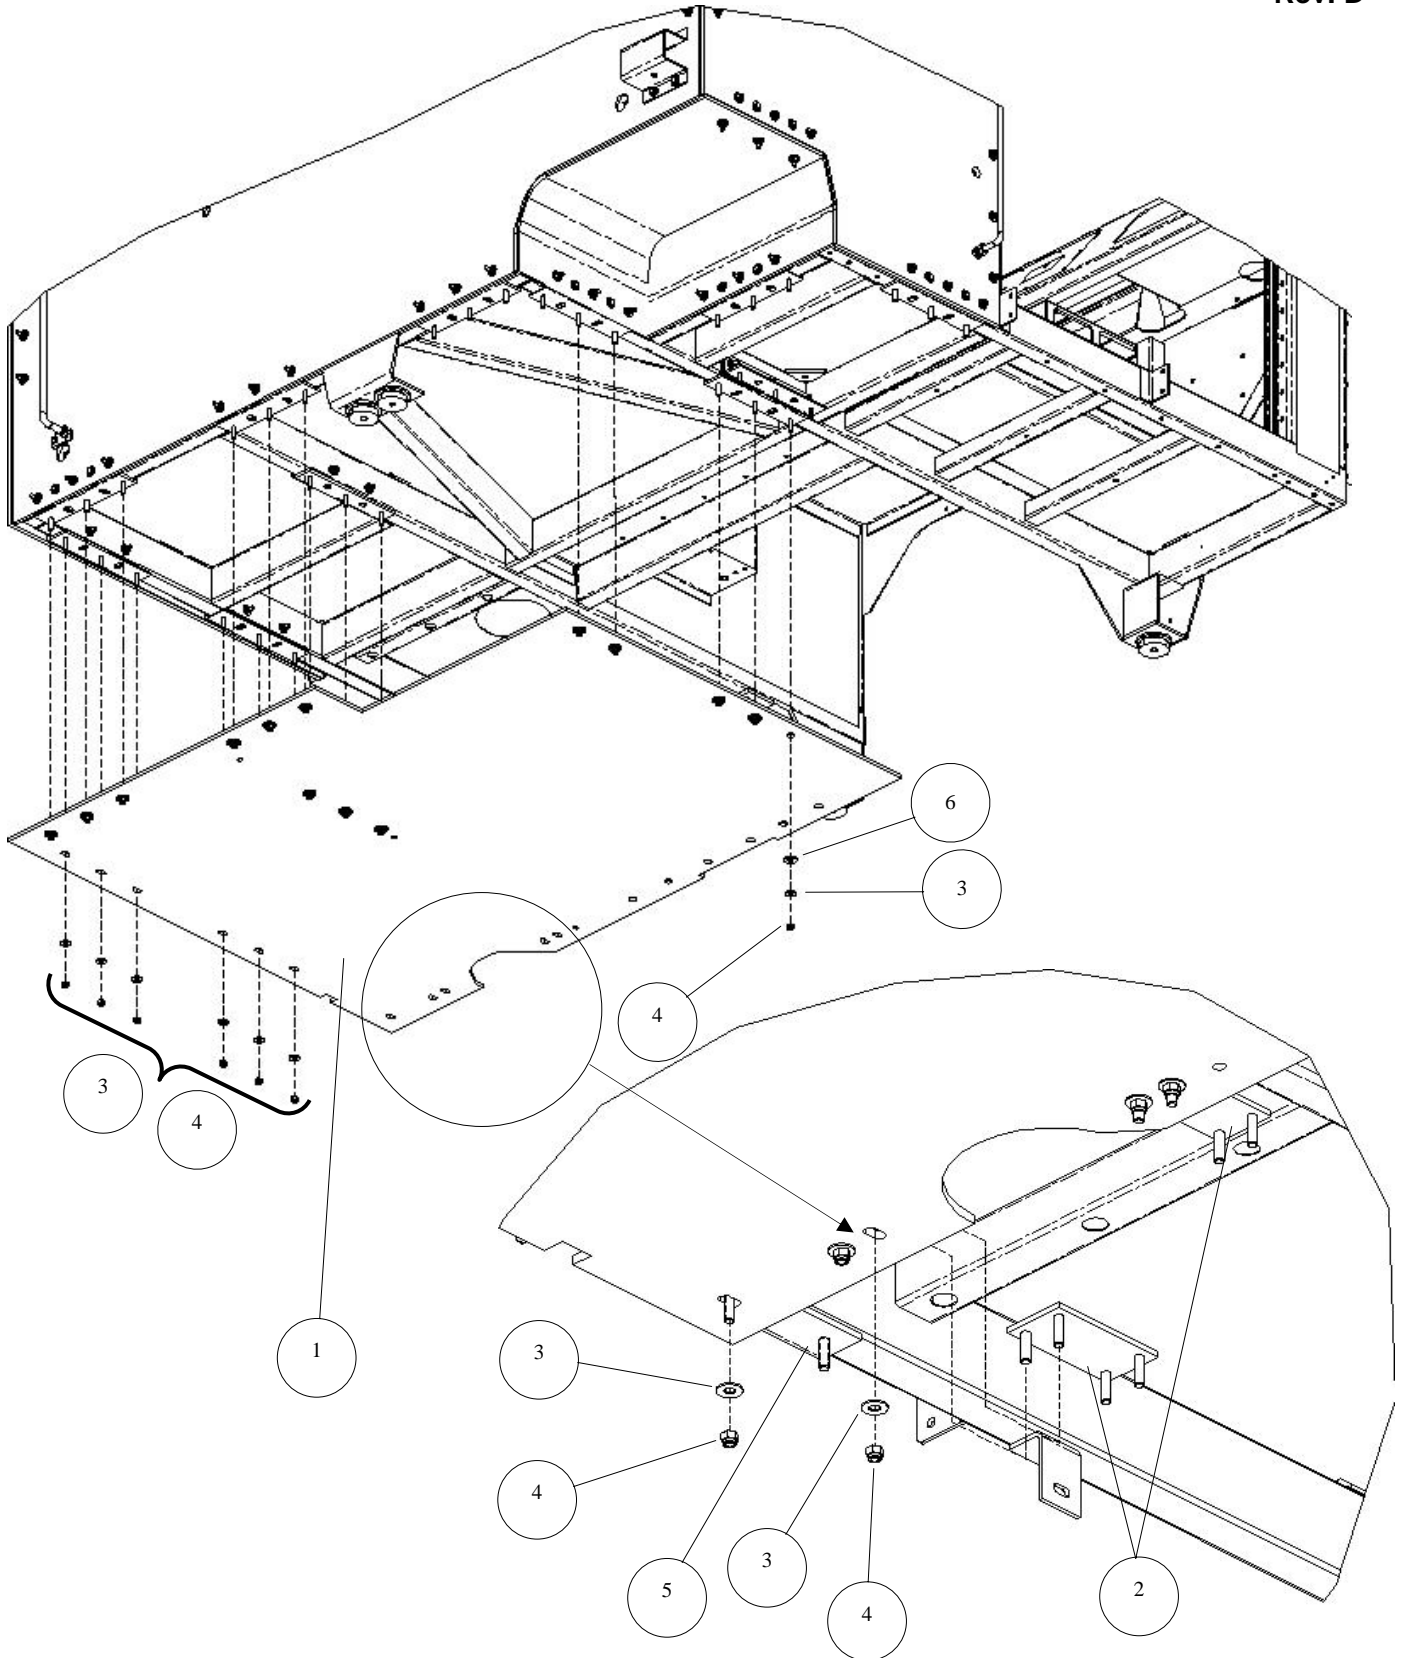

Figure 3-36. Center Mine Blast Panel Installation.
5. Install center mine blast panel, power steering brackets, and step joiner bracket as follows (see Figure 3-36):